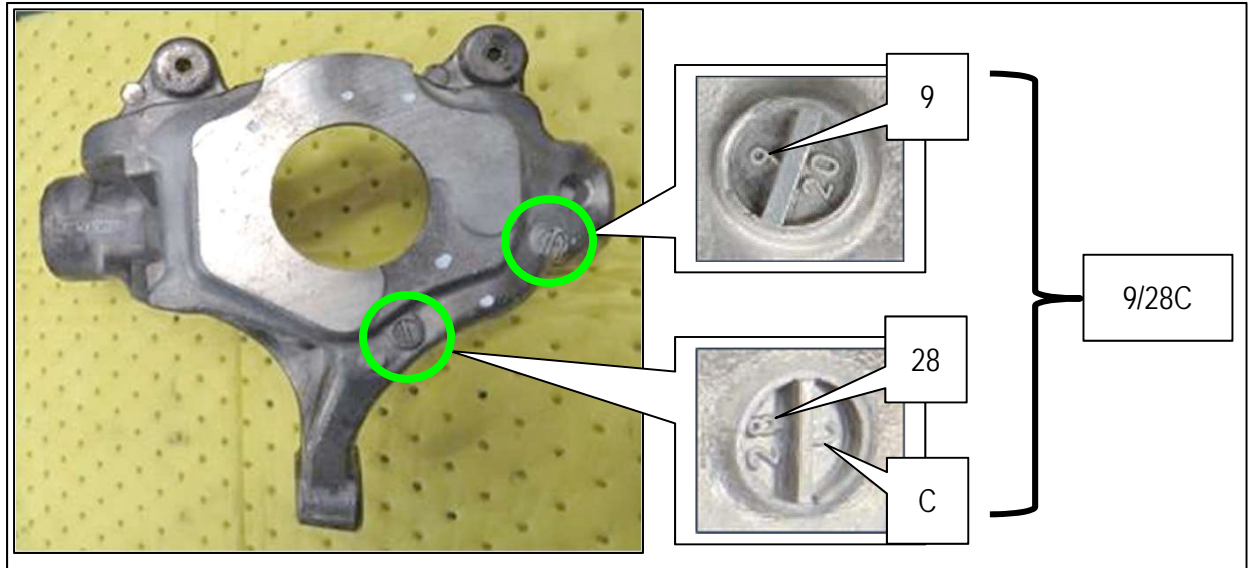

Figure 85
54. Locate the casting stamp dates on each suspension knuckle, where indicated in Figure 85.